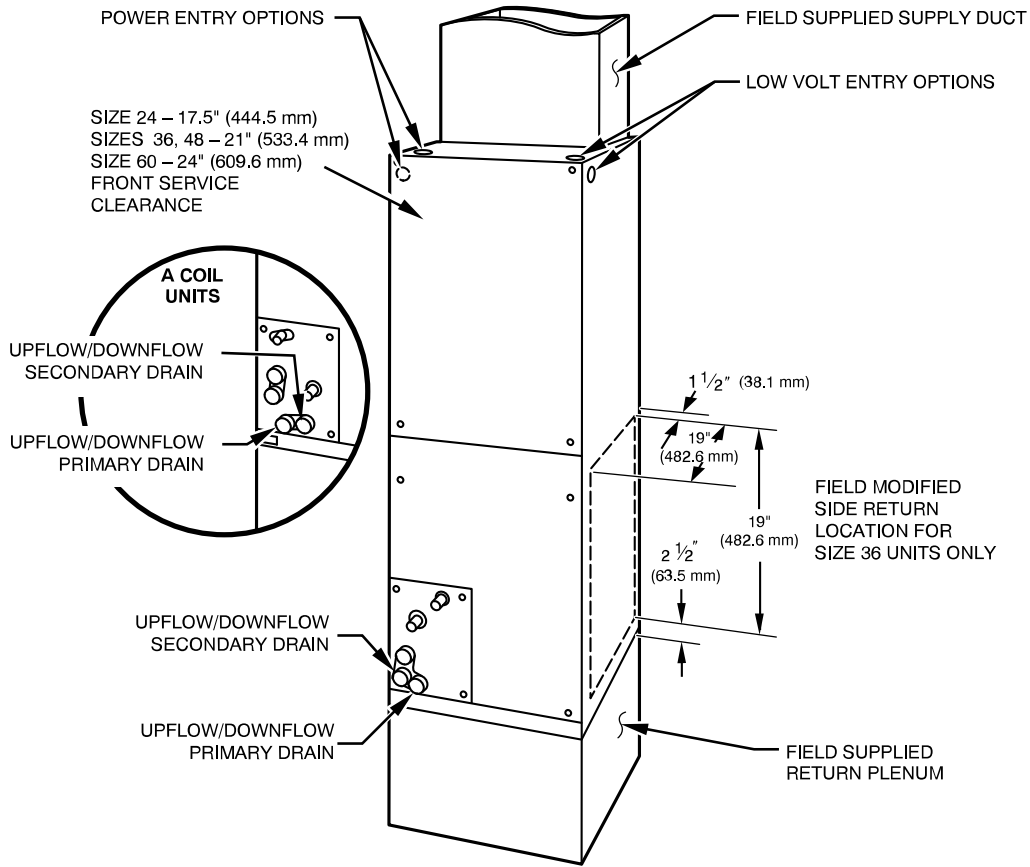
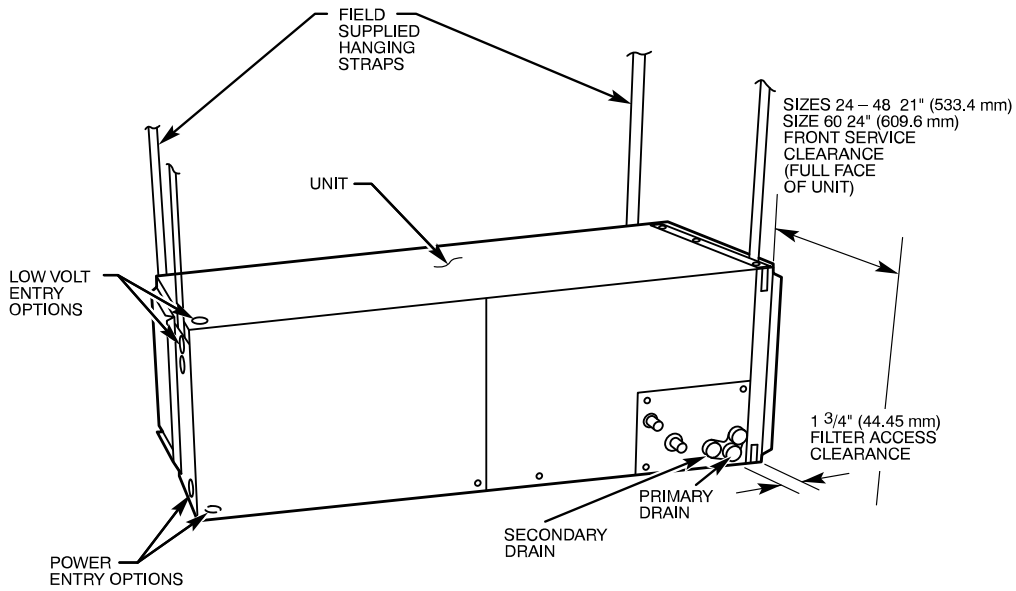
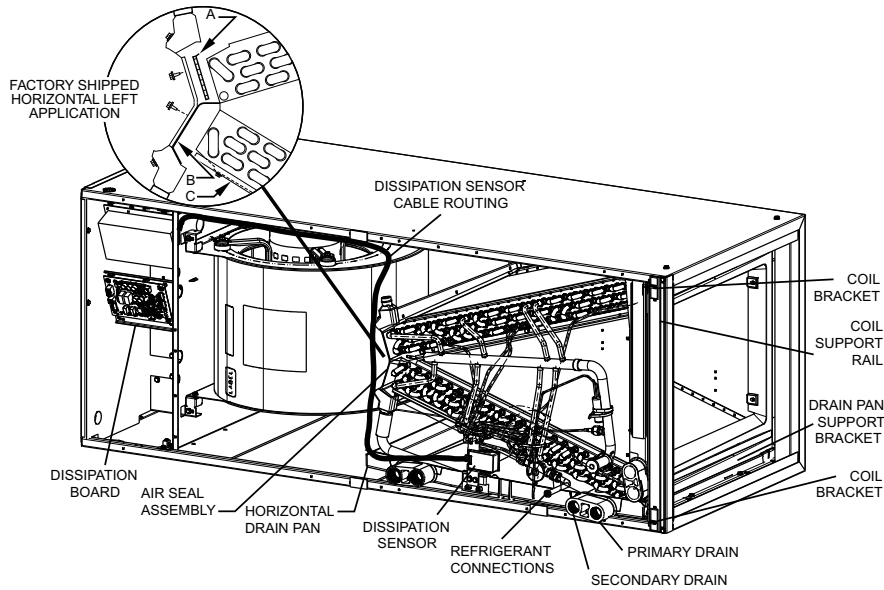

Fig. 1 - Slope Coil Unit in Upflow Application
Fig. 2 - Slope Coil in Horizontal Left Application
Fig. 3 – A-Coil in Horizontal Left Application
FCMA5 fan coils can be installed for upflow and horizontal-left applications as factory shipped (Fig. 1, Fig. 2, Fig. 3), and FCMA5 may be converted for downflow applications using factory-authorized accessory kits.
Side return is a field option on slope coil models. Cut opening per dimensions (Fig. 1). A field-supplied bottom closure is required.
2. When suspending unit from ceiling dimples in casing indicate proper location of screws for mounting metal support straps (Fig. 2).